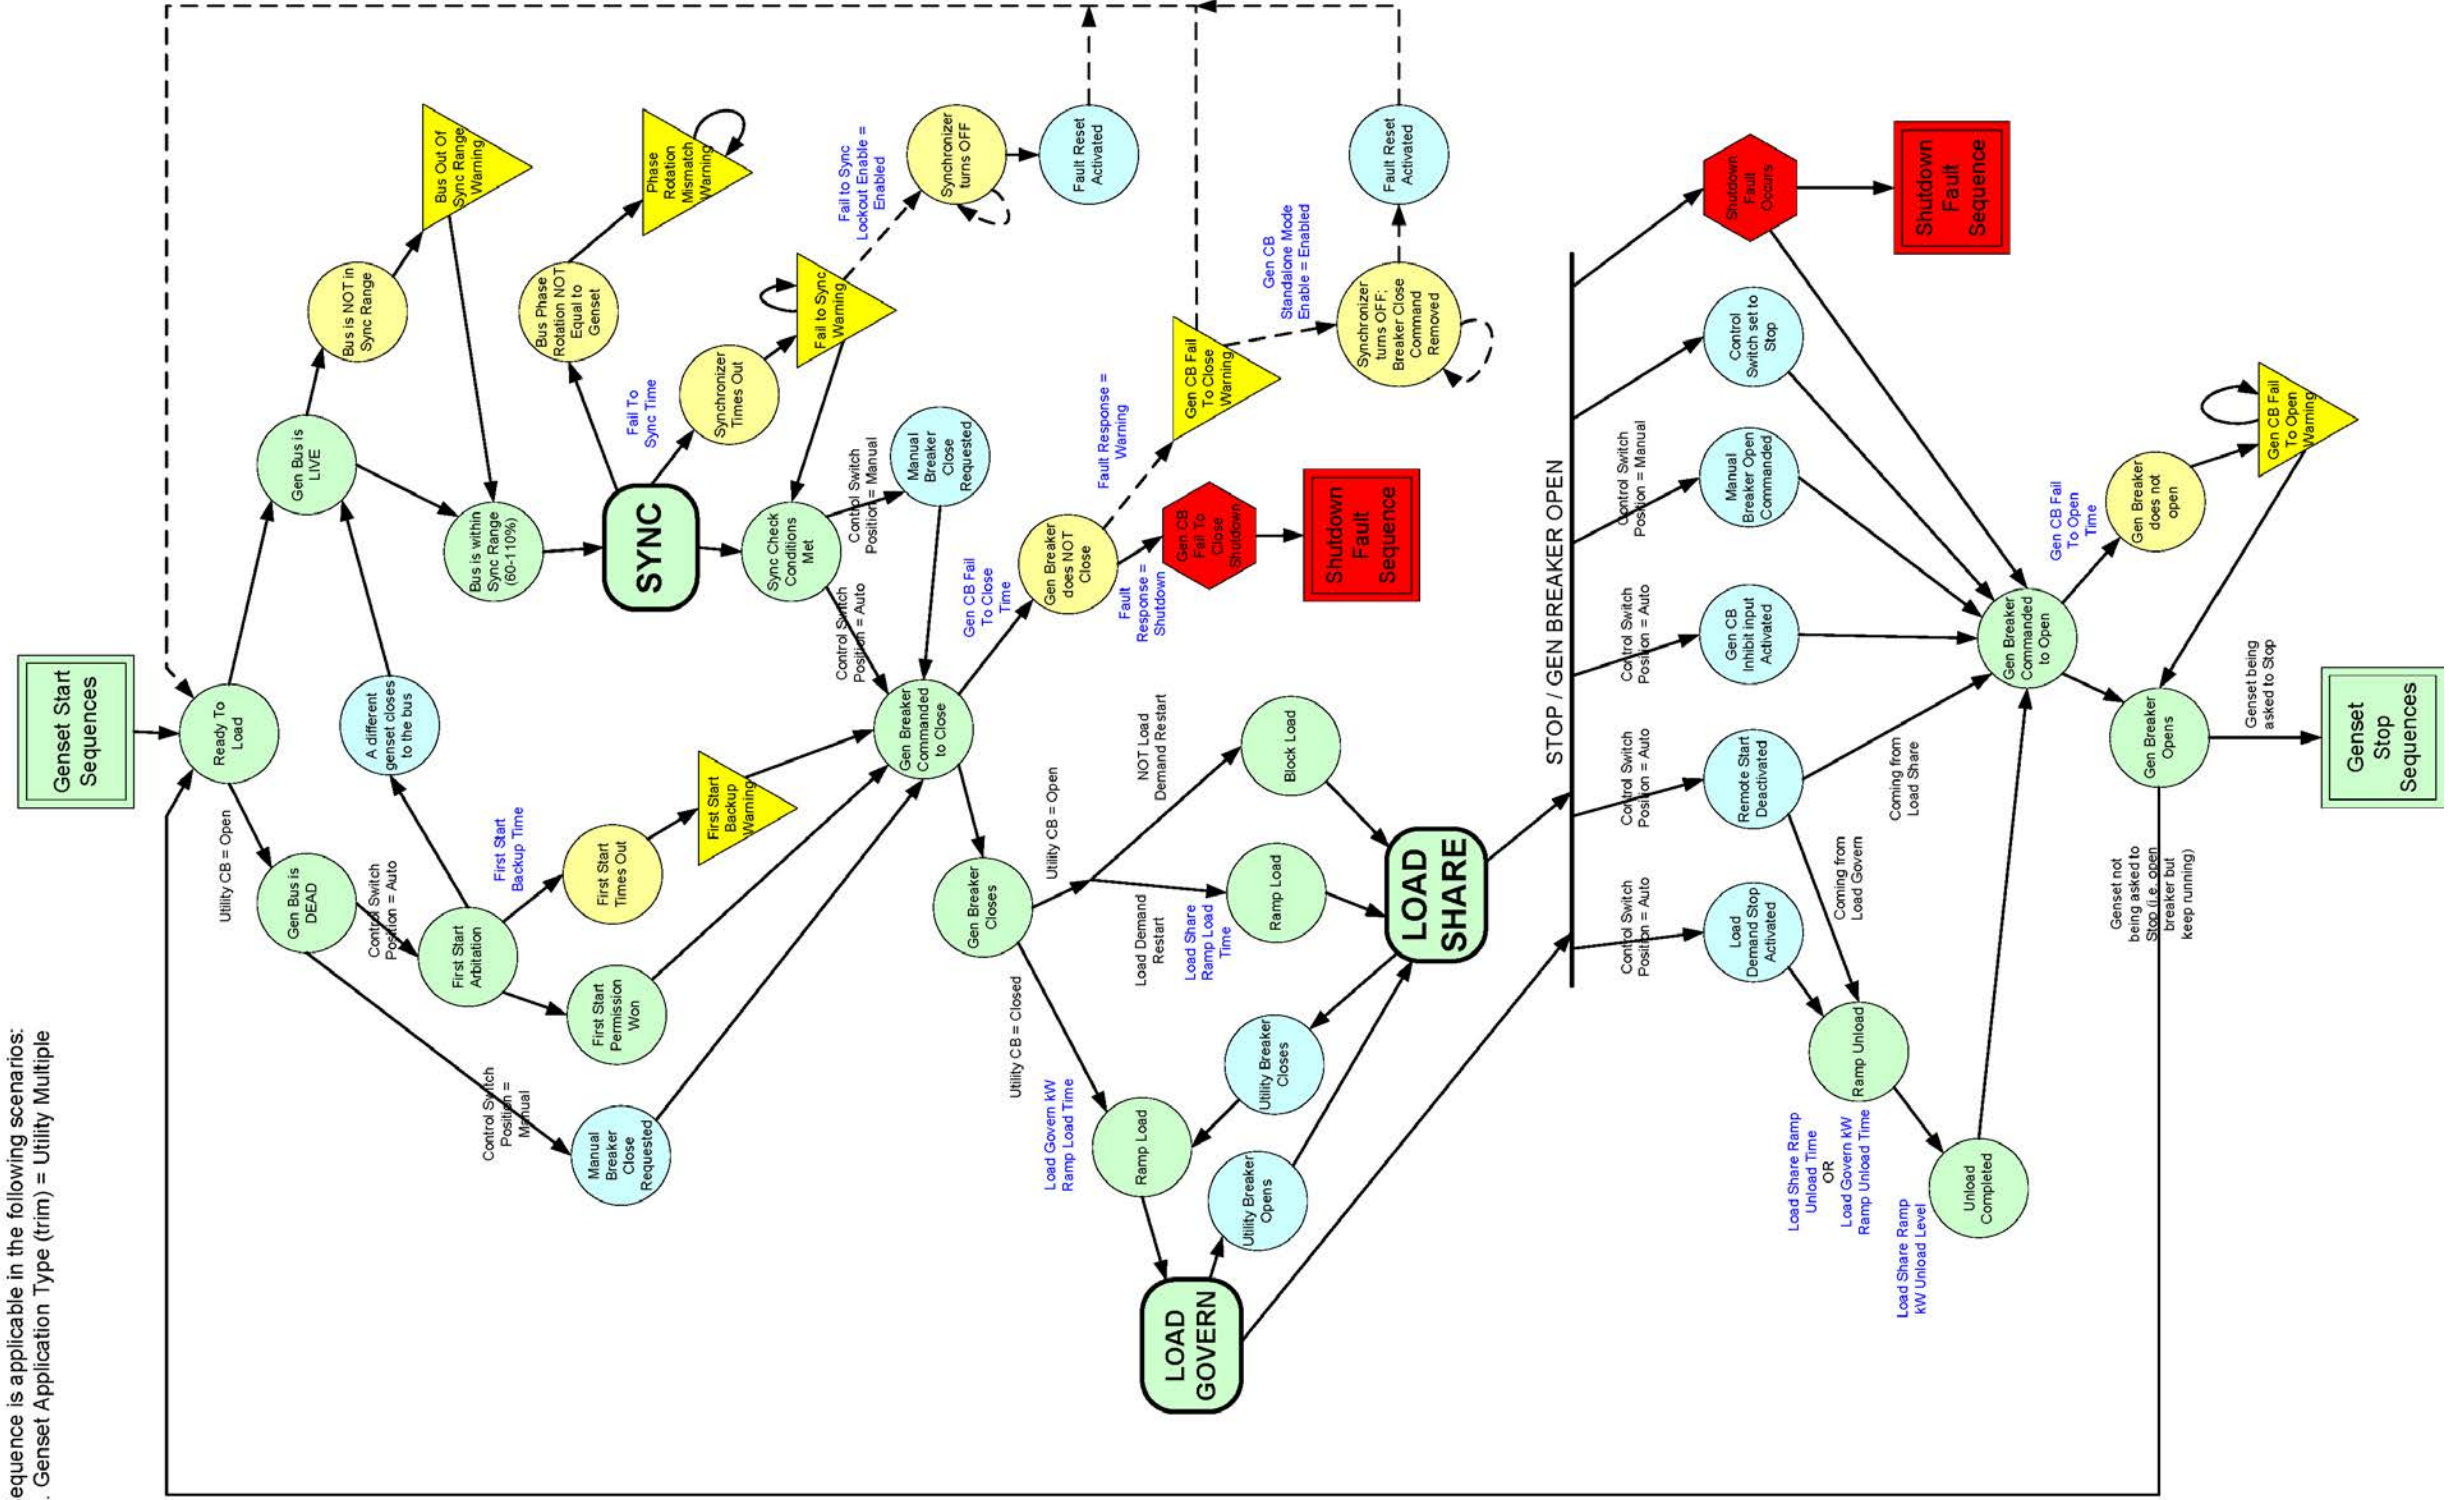

FIGURE 146. UTILITY MULTIPLE
- Figure 146. Utility Multiple 678